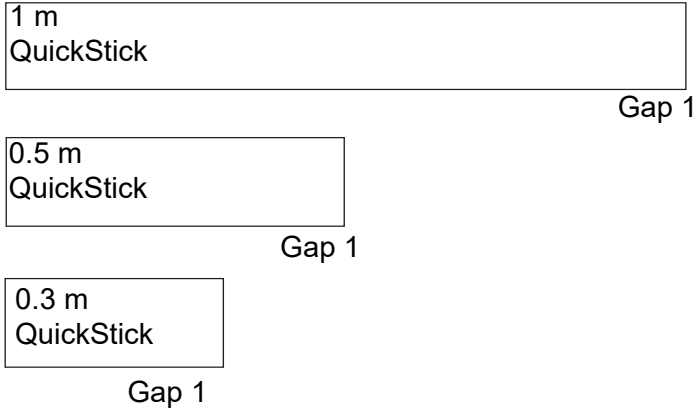

Figure 4-36: QuickStick Gap Definitions for Downstream Gap #1 and Downstream Gap #2
QuickStick and QuickStick HT systems use the Downstream Gap motor parameter to define the physical space between motors. This is used by the collision avoidance system to confirm that vehicles do not collide over the motor gaps. The Downstream Gap #1 and Downstream Gap #2 parameters are used to enter the downstream gaps of different motor types, see Figure 4-36.
5. Input the **Gap Errors** from the Motor Gap Information page into the appropriate **Gap Error** field for each motor on the path. The Gap # is populated based on the motor types, see Figure 4-36 on page 106.